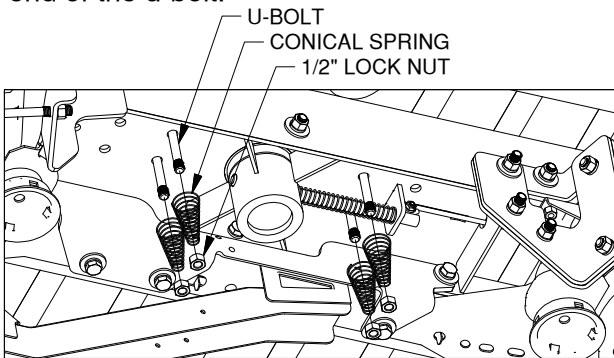

Figure G2: View under the bed looking back at the rear of the truck. (Exhaust not shown)
3. **Add springs.** Place a conical spring over each leg of the u-bolts and secure with a 1/2" lock nut, see Figure G2. Tighten the lock nut until the nut is flush with the end of the u-bolt.